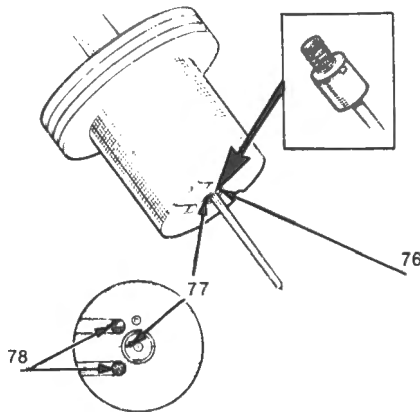
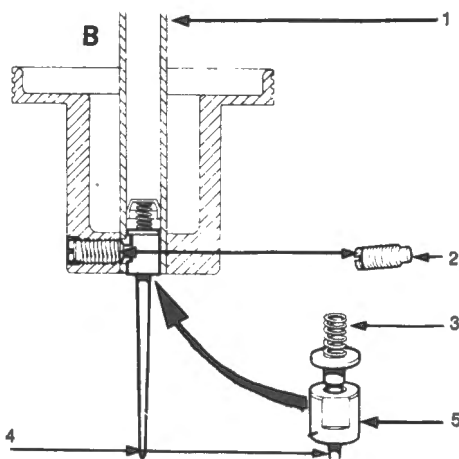

Fig. F-32
Fig. F-33
- 11 Clean inside the suction chamber and piston rod and wipe dry. Refit the damper and washer. Temporarily plug the piston transfer holes (69) and fit the piston into the suction chamber. Fit a nut and screw with a large flat washer under the head of the screw into one of the suction chamber fixing holes, positioning the washer (70) so that it overlaps the suction chamber bore. Check that the piston is fully home in the suction chamber and invert the assembly to allow the chamber to fall away from the piston, until the piston contacts the flat washer. Check the time taken for the suction chamber to fall the full extent of the piston travel. The time taken should be 5-7 seconds. If this time is exceeded, check the piston and suction chamber for cleanliness and mechanical damage. If after checking the time taken is still not within the limit, renew the suction chamber and piston assembly.
- 15 Refit the spring to the jet needle assembly, ensuring that it locates completely in the groove of the needle support. Fig. F-32.
the pip be removed or repositioned. Fit the needle assembly into its guide and fit the assembly into the piston. The lower edge of the guide (76) (Fig. F-32) must be flush with the face of the piston and the guide positioned so that the etched locating mark (77) on the lower face is adjacent to and in line with the midway point between the two piston transfer ports as illustrated in Fig. F-32. Alternative needle guides have a flat machined on the guide which must be positioned so that the guide locking screw tightens down onto the flat. Fig. F-33. If the guide is incorrectly positioned so that the guide locking screw has not tightened down on the flat, the head of the screw will protrude from the piston.